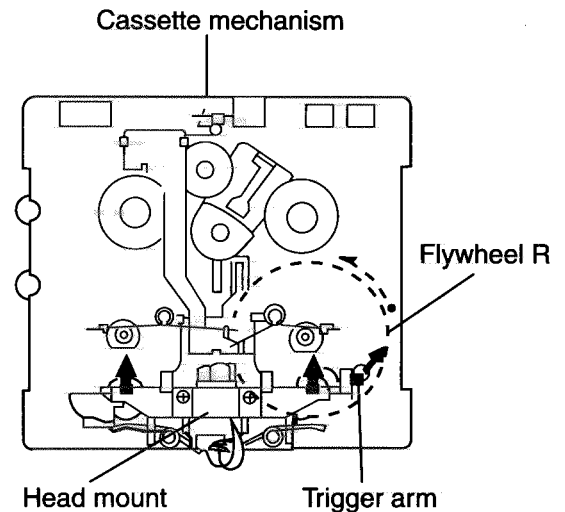

Fig.1 (Mechanism A side)
■ **Removing the Playback, Recording and Eraser Heads (See Fig.1~3)**
1. While shifting the trigger arms seen on the right side of the head mount in the arrow direction, turn the flywheel R in counterclockwise direction until the head mount has gone out with a click (See Fig. 1).